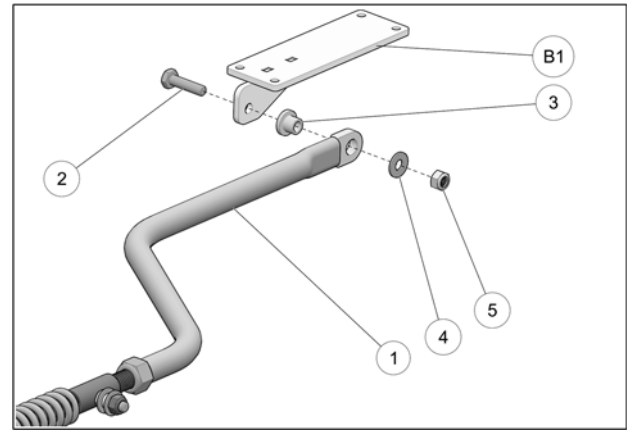

Fig. 7
8. Attach the rear suspension stabilizing rod (1) to anchor plate (B1) using the bolt (2), bushing (3), washer (4) and nut (5). Torque to 50 N•m [37 lb•ft]. See Fig. 7